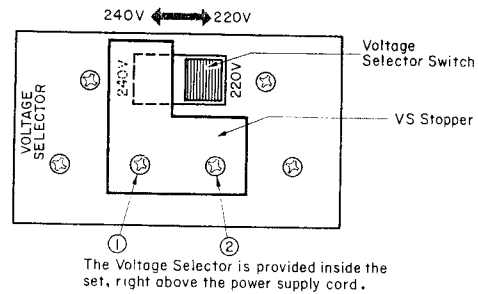

Fig. 1
Check whether the working AC power supply voltage is 220V, or 240V. In the case the working AC power supply voltage does not agree with the position of the VOLTAGE selector switch, the switch should be changed over in the manner described below. (Refer to Fig. 1.)
- (1) Unscrew the 2 screws (① and ②) shown in Fig. 1, and dismount the VS stopper.
- (2) Switch over the VOLTAGE selector switch to the position that corresponds to the working power supply voltage.